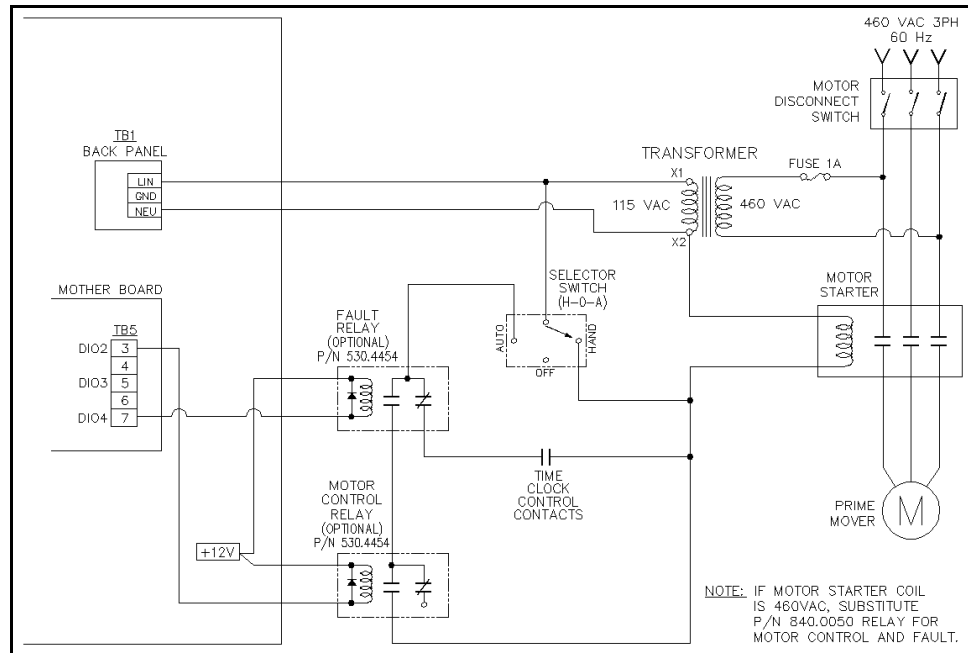

Figure 7-2. Power and Control Relay Wiring Diagram
Refer to the suggested control panel wiring diagram in Figure 7-2 when wiring the stepdown transformer. Many types of motor starter panels are used with varied control wiring methods and control voltages. The suggested method in Figure 7-2 will obviously not work in every situation, but the general idea should provide a qualified electrician with enough information to figure out the best way to wire a particular control panel.
The motor control relay can be either a solid-state relay or an electro-mechanical relay labeled “Motor Control” (as shown in Figure 7-2).
3. Wire the control relay output contacts in series with the motor starter control circuit. See to Figure 7-2 for a suggested method.
The optional fault relay switches control of the well to the time clock circuit if a microprocessor fault is detected or if 12-VDC power for the Lufkin Well Manager RPC is lost. Since the Lufkin Well Manager RPC normally keeps the fault relay energized, it is necessary to use a set of normally closed contacts that close when the fault relay de-energizes in the event of a fault or power failure. See Figure 7-2 (page 7-7) for a suggested wiring method.
Wire the fault relay output contacts as shown in Figure 7-2 (page 7-7).